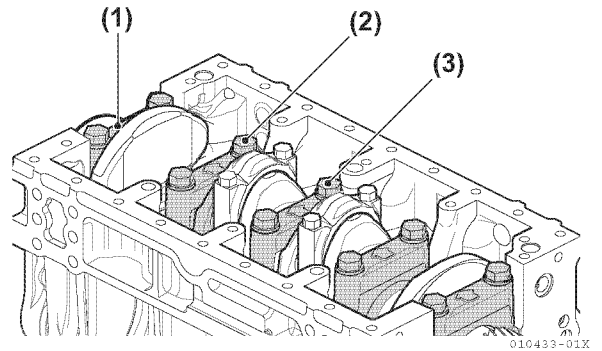

Figure 5-131
6. Coat the flange and the thread of the main bearing bolts with engine oil, put them on the crankshaft journal, and tighten the main bearing bolts to the specified torque (Figure 5-131).